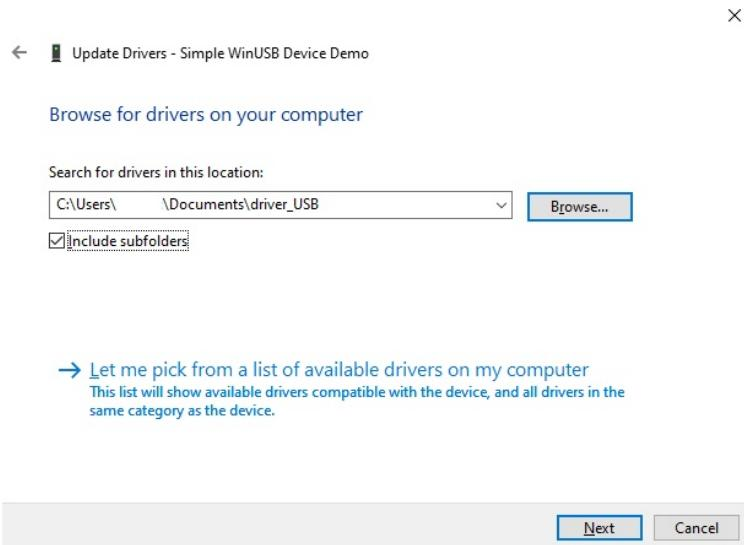

Fig. 11.11: "Update Drivers" window including path to the USB driver.
5. Point the driver folder in the PC destination path through the "Browse..." button and check "Include subfolders" (see **Fig. 11.11**).